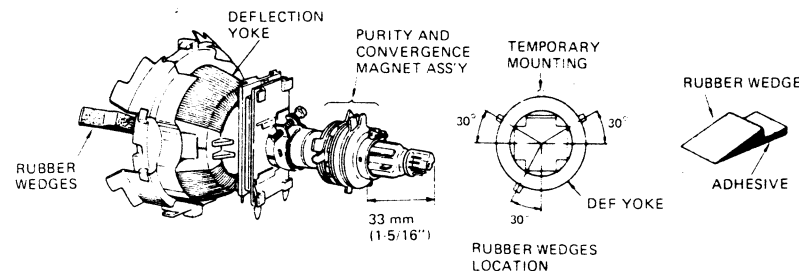

Figure 4.
2. Put a wedge as shown in figure 4 temporarily. (Do not remove cover paper on adhesive part of the wedge.)